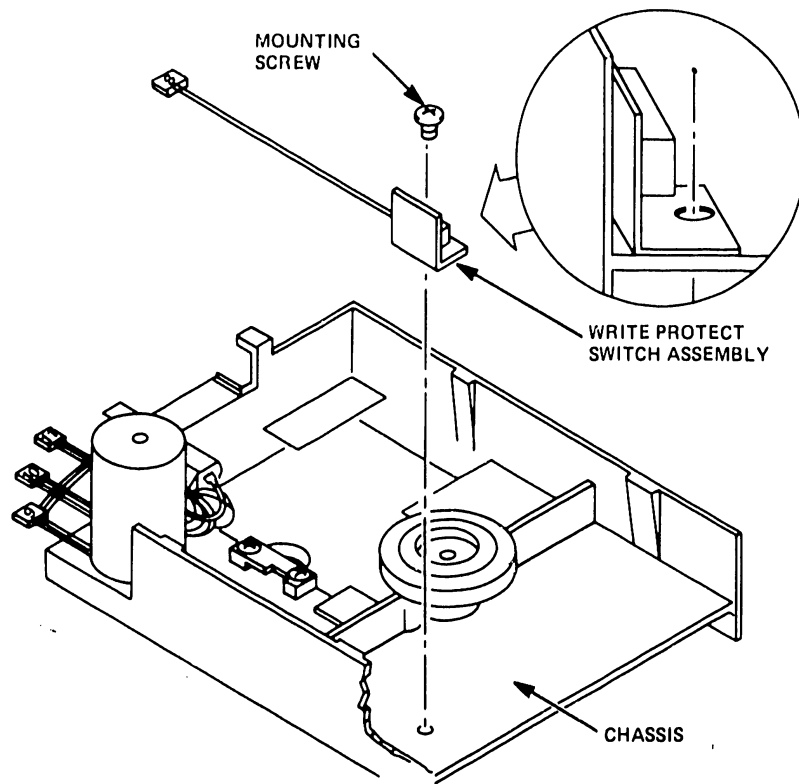

Figure 5-24
- 5.12.3 With a Phillips screwdriver, remove the mounting screw that attaches the Write Protect Switch Assembly to the side of the chassis (see Figure 5-24).